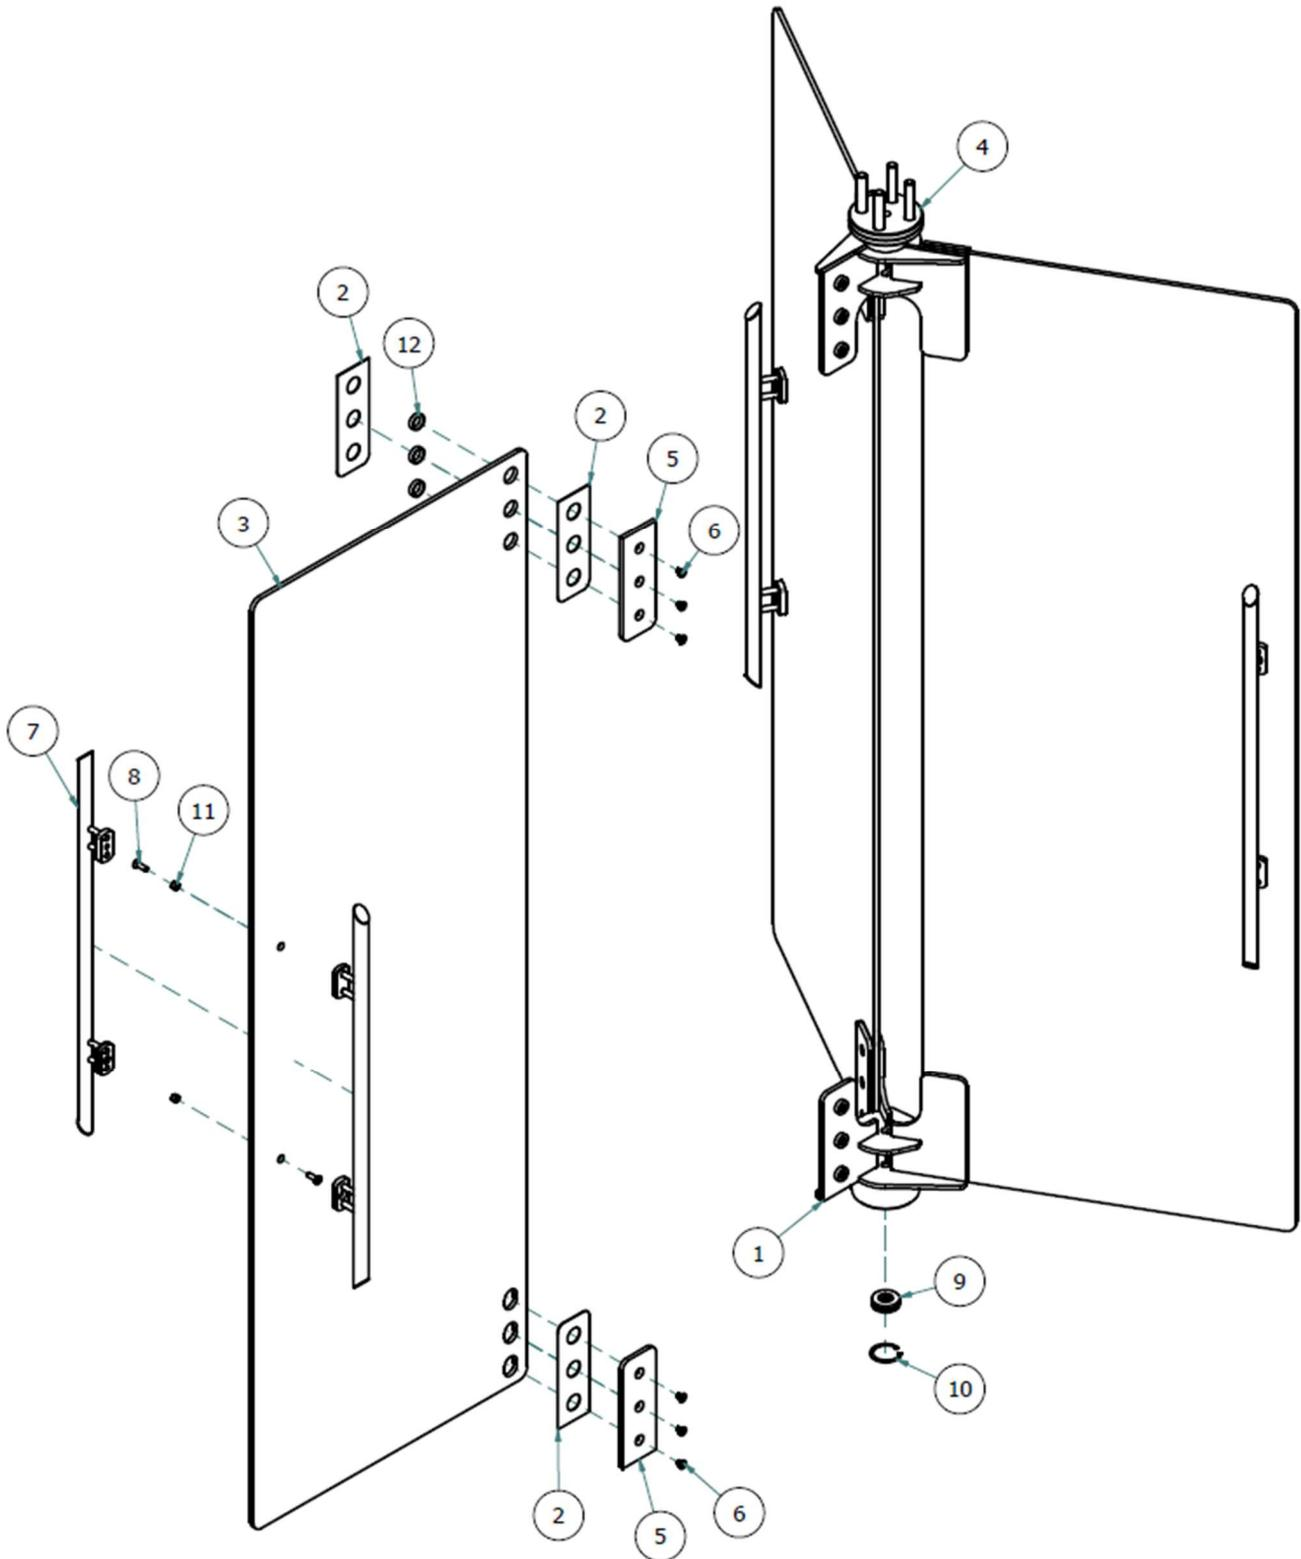

Figure 18: Full rotor assembly
5.26. The table above and image Figure 18 refers to the full assembly required for the rotor.